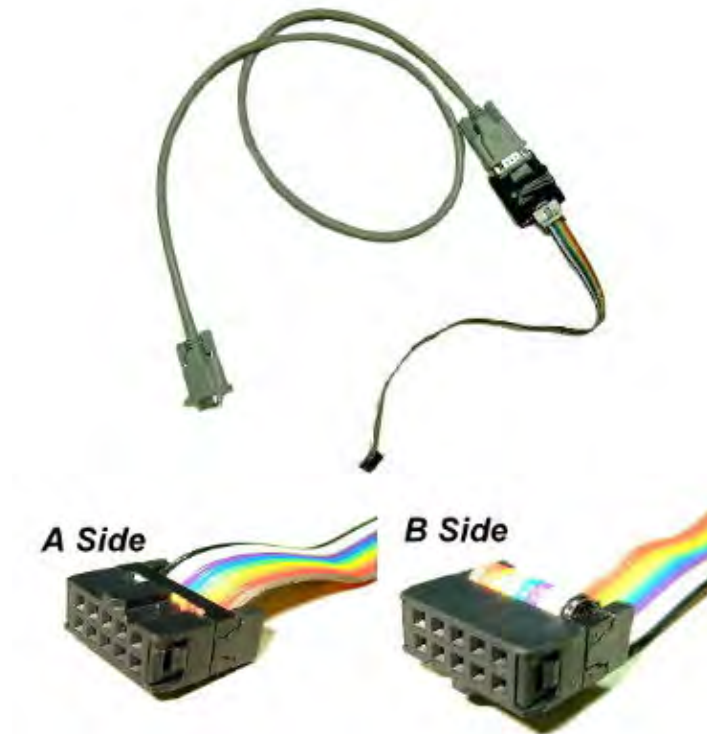
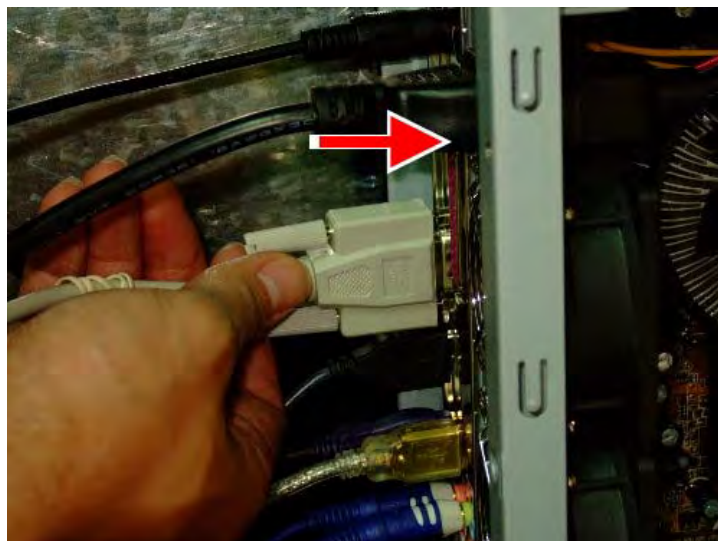
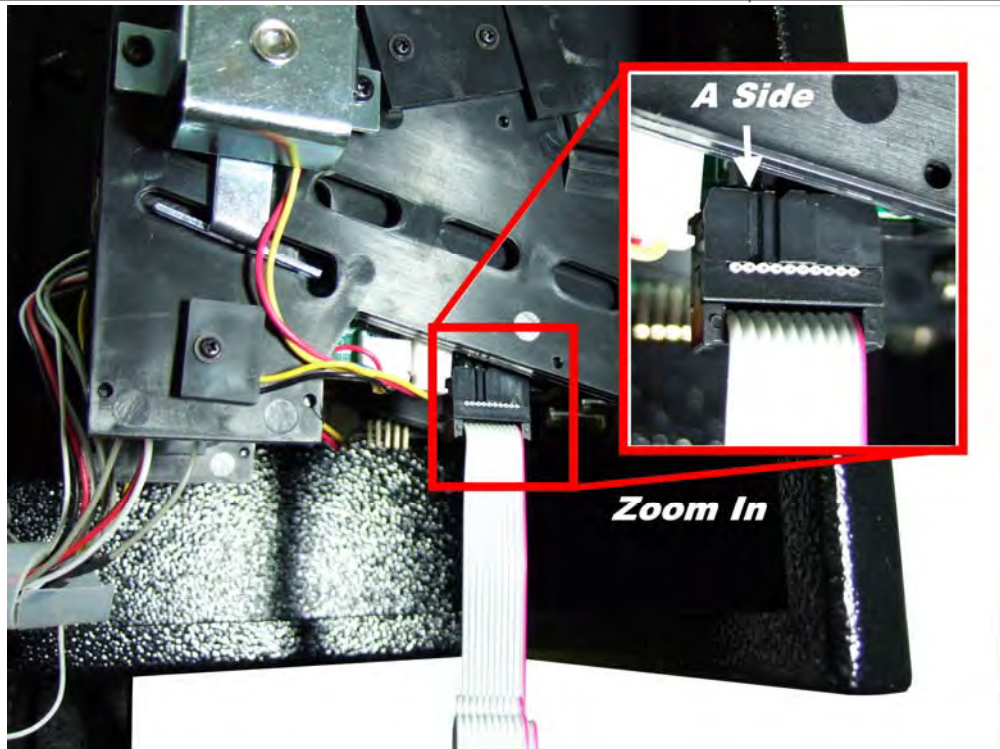

Fig. 4-4 Coin Training connector
Fig. 4-5 RS232 port
Fig. 4-6 Coin door
**Step 1:** Open the coin door (Fig. 4-6) and the control panel box. Then connect the Coin Acceptor and the IPC RS232 port (Fig. 4-5) by using a coin training connector (Fig. 4-4).